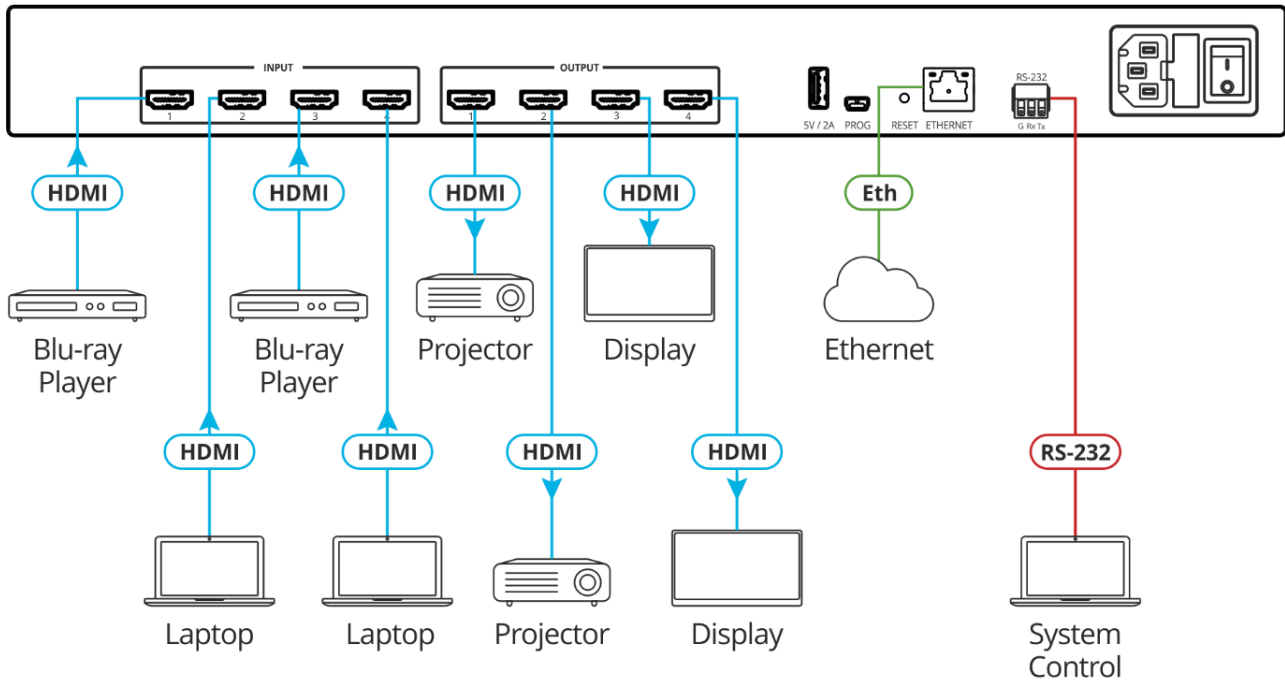

Figure 3: Connecting to the VS-44H2 Rear Panel
## To connect VS-44H2 as illustrated in the example in Figure 3:
1. Connect up to four HDMI sources (for example, Blu-ray players and laptops) to the HDMI INPUT connectors (10).
2. Connect the HDMI OUTPUT connectors (11) to up to four HDMI acceptors (for example, projectors and displays).
3. Connect the power adapter to **VS-44H2** and to the mains electricity (not shown in Figure 3).
4. Connect the ETHERNET RJ-45 port (15) to the Network.
5. Connect the RS-232 port (16) to a controller (for example, a laptop).